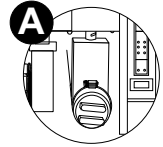

Figure 13.2f
2. Locate the Quick Drain Valve, Figure 13.2f.